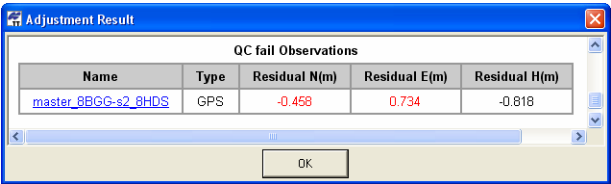

Figure 6-29. Adjustment Results for Observation Residuals
- The observations with residuals worse than the values set for the current job (Figure 6-29 on page 6-26).